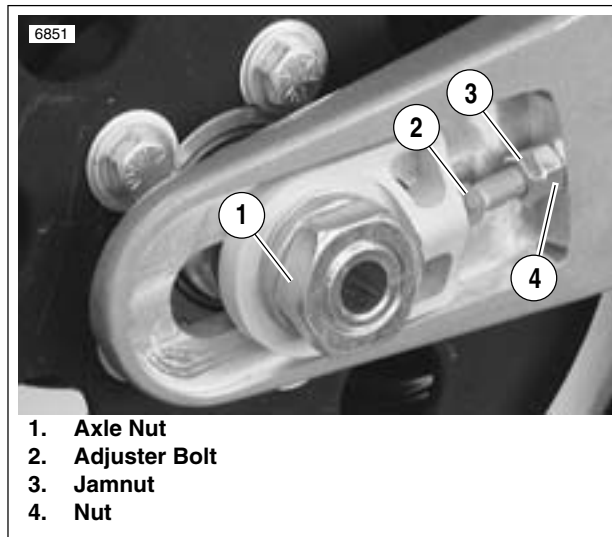
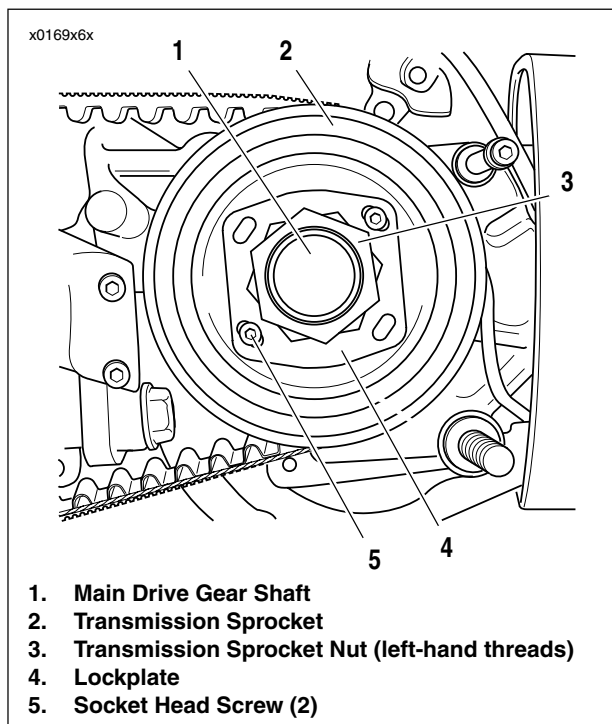

Figure 6-24. Secondary Drive Belt Adjustment
Figure 6-25. Transmission Sprocket
5. See Figure 6-24. Reduce tension on secondary drive belt.
- a. Loosen rear axle nut (1) (metric).
- b. Hold axle adjuster bolt (2) with a 5/16 in. wrench. Loosen jamnut (3) and nut (4). Slide adjuster bolt forward. Repeat on left side.
6. See Figure 6-25. Place transmission in first gear. Remove two socket head screws (5) and lockplate (4).